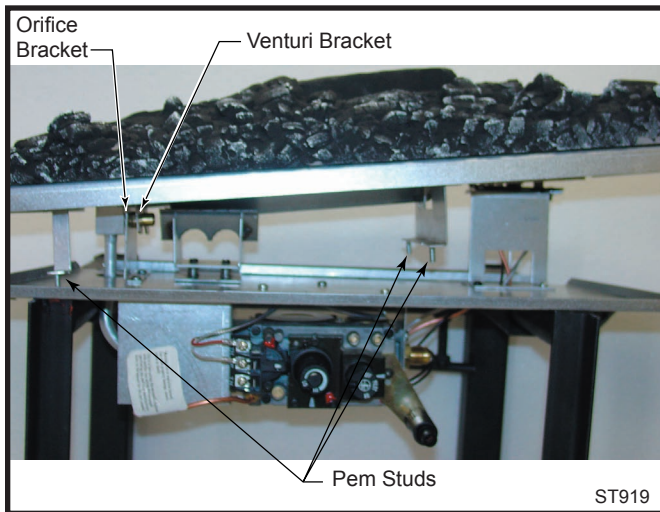

Fig. 72 Tilt ember bed slightly to correctly place on venturi and air shutter.
2. Carefully remove ember bed by tilting the right side up and lifting out toward the right side of the unit. (Fig. 72)
1. Replace burner making sure venturi on bottom of ember bed aligns with orifice and is seated properly on air shutter assembly. (Fig. 72) Make sure burner is slid into place at a slight angle and opposite to how it was removed. When burner is slid into place, the three (3) pem studs should slide down through clearance holes into the bottom of the control panel.